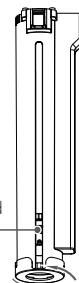

Fig 4
3. Rotate the lower cover of the tube clockwise to remove the cover, and then take out the atomizing head assembly as shown in **Fig 4**.